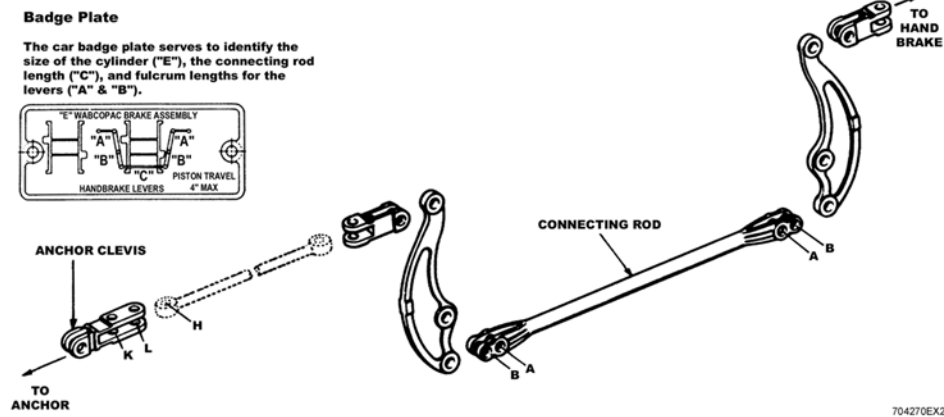

Figure 18: NYCOPAC Hand Brake Adjustment
- 5.4.1.22 NYCOPAC HAND BRAKE ADJUSTMENT, Fig. 18 - Perform on new cars, after any new or turned wheel replacements, and after truck replacements.